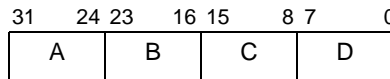

Figure 2-6. System Bus Data Format
Data is placed and retrieved by memories and peripherals on the system bus using the data format shown in Figure 2-6.
- 'ABCD' is the system bus data word contents, see Figure 2-6 on page 51.